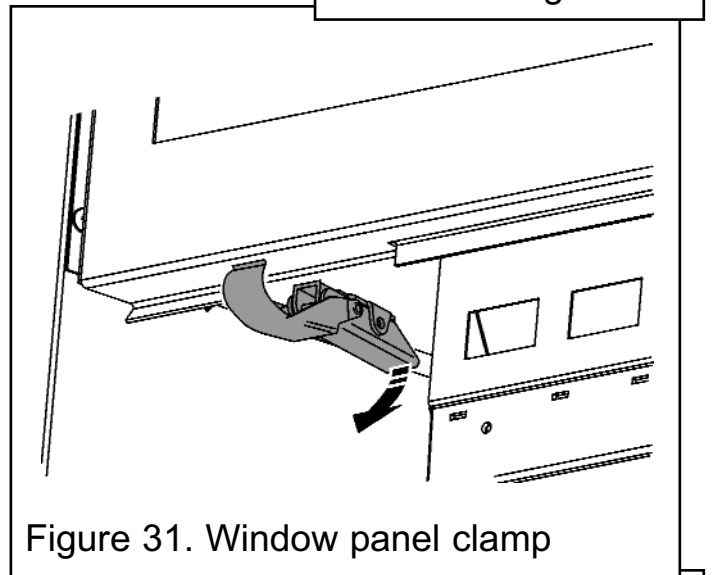

Figure 31. Window panel clamp
2. The window panel is secured at the bottom with two clamps. To release the clamps, hold at the rear and pull down (See figure 31).